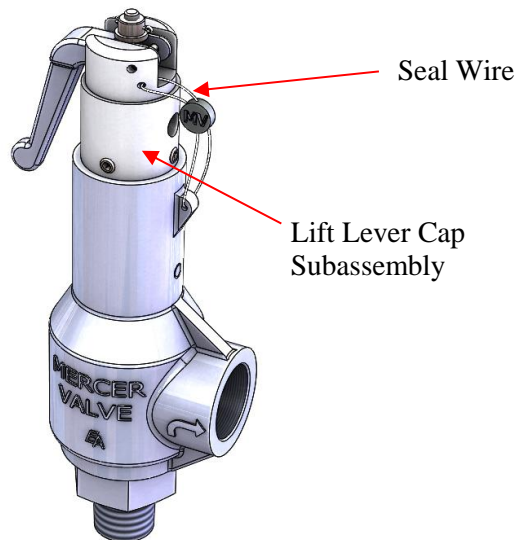

Figure 16: 8500 Series with a Lift Lever
1. Cut and remove the seal wire. See Figure 16.